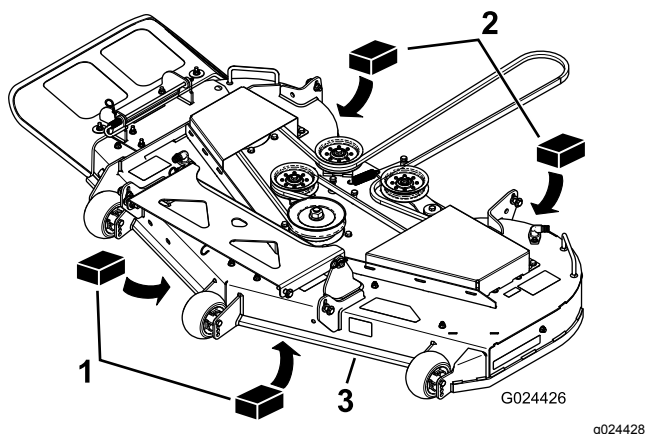

Figure 72
3. Place two 6.66 cm (2-5/8 inch) blocks under each side of the front edge of the deck, but not under the anti-scalp roller brackets (Figure 72).
4. Place two 7.30 cm (2-7/8 inch) thick blocks under the rear edge of the cutting deck skirt; one on each side of the cutting deck (Figure 72).